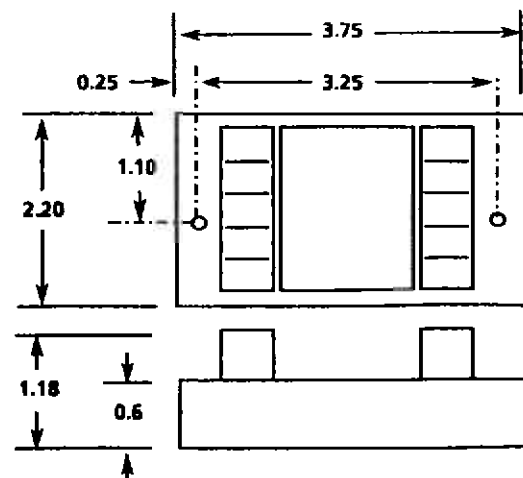

Figure 2 - CBP-310 Dimensions (in INCHES)
7. See *DIMENSIONS* (Figure 2 opposite) for mounting dimensions.